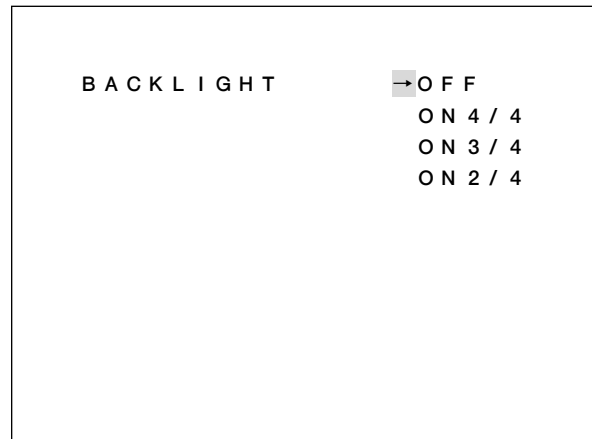

Figure 1 : Valid
- To register as Valid, leave the area in the condition shown in Figure 1.